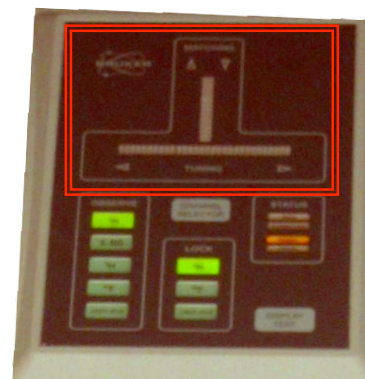

Figure 3
- e. The HPPR cover module has LED's which can be used to optimize the tuning quality as well (see Fig.3)